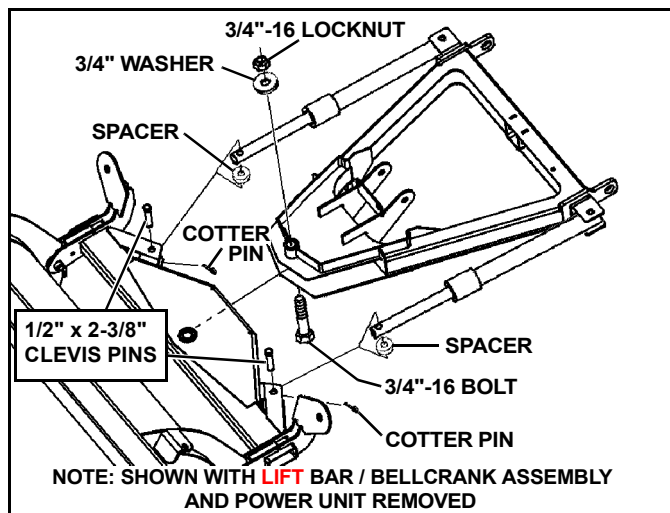
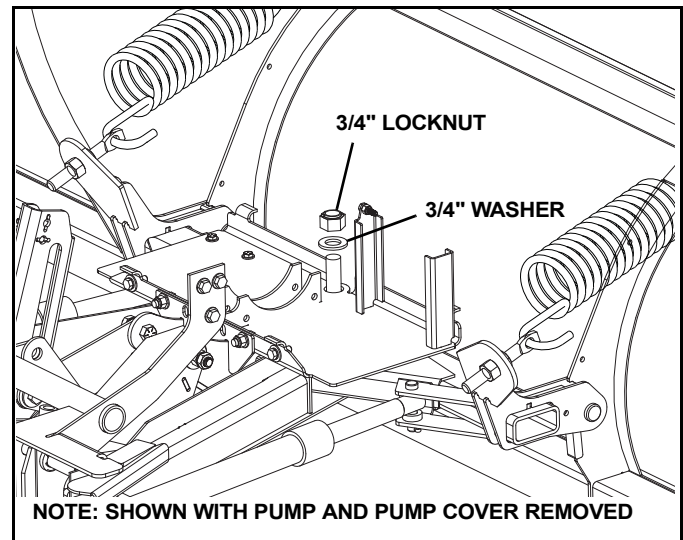

Figure 1-7
Figure 1-8
4. Remove 3/4" locknut, washer and 3/4" bolt. Slide swing frame into A-frame. Replace 3/4" bolt, washer and locknut. Tighten hardware. See Figure 1-7 and Figure 1-8.
5. Remove cotter pins, clevis pins and spacers from rod end of cylinders. Reconnect the power and control. Extend cylinders using plow control to align holes in cylinder rod and swing frame. Replace spacers, clevis pins and cotter pins, making sure that spacer is on bottom of rod. (See Figure 1-7).